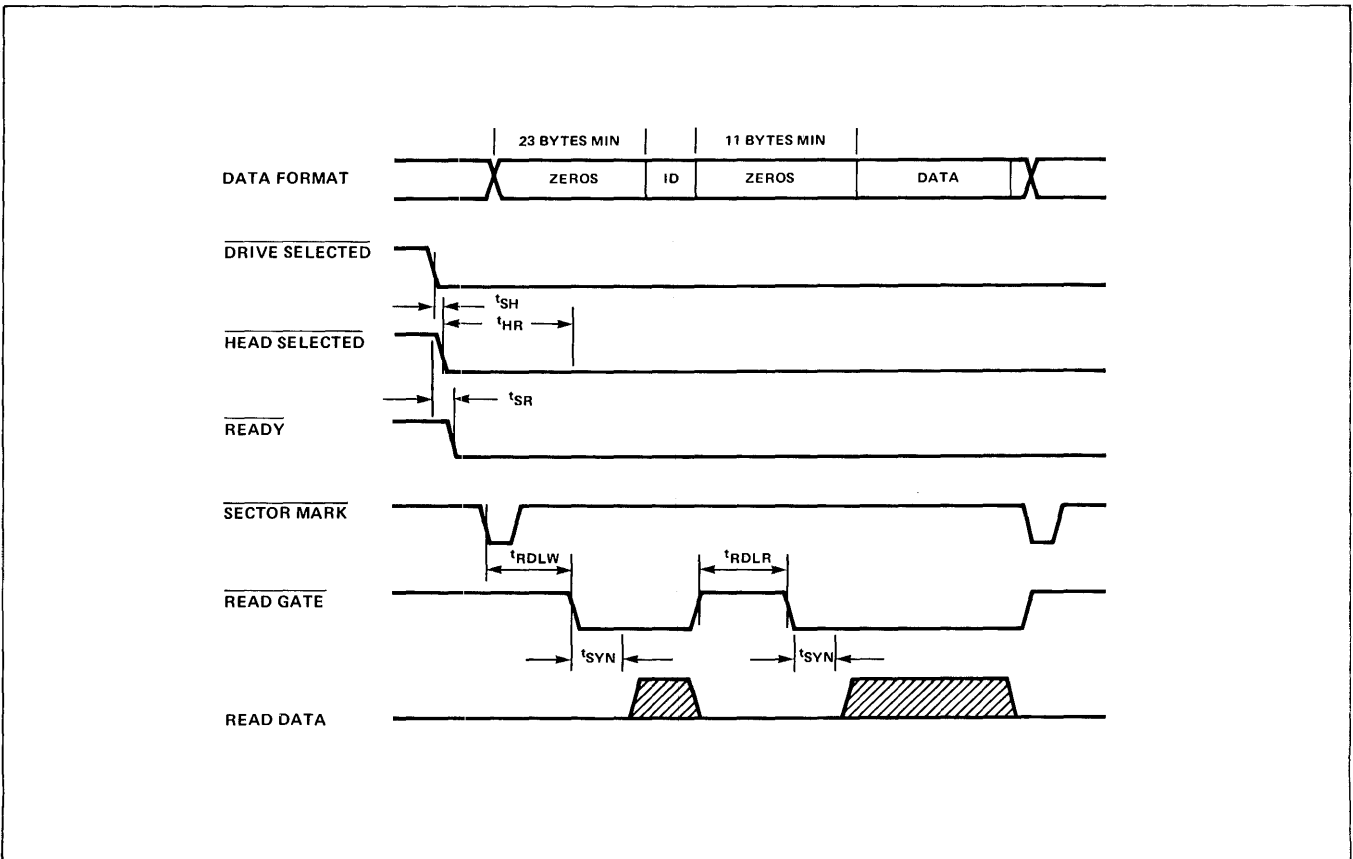

Figure 4-22. Record Reading Timing
8. *Record Reading* Figure 4-22 shows the timing requirements for reading full sectors (ID and data fields) and also for reading data fields only. The AC characteristics are listed in Table 4-27.